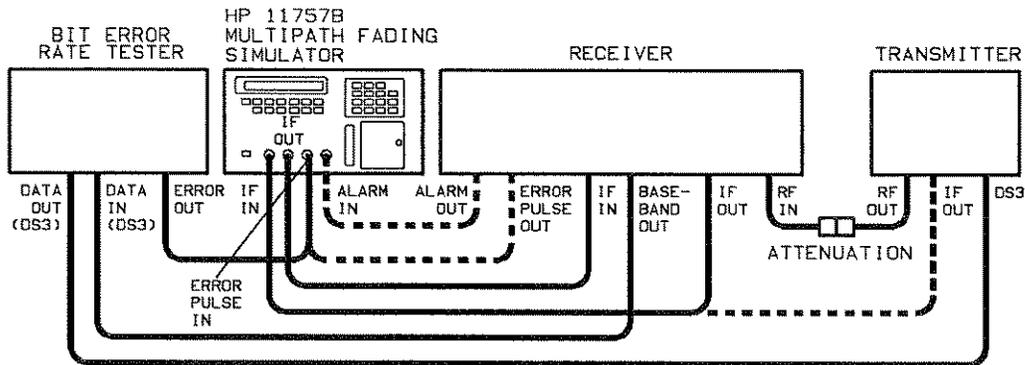

Figure 1-4. S-Curve Measurement Test Setup
4. Connect the Fader, BERT and Digital Radio as shown in figure 1-4.